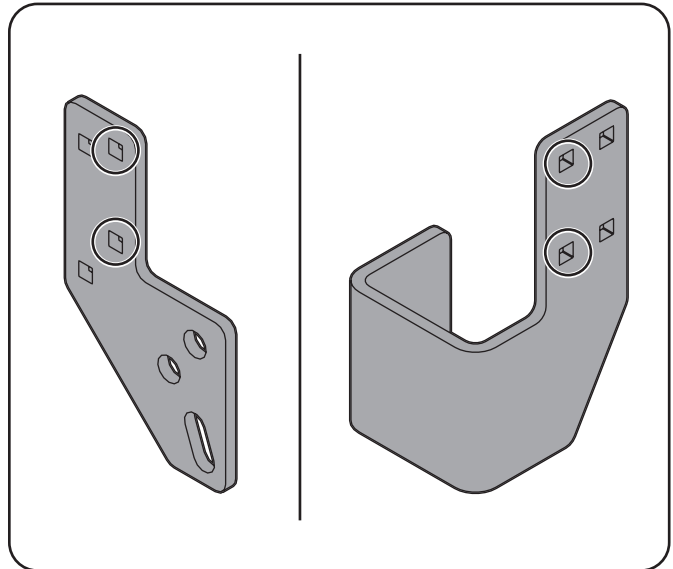

Figure 1-9
1. Use Figure 1-9 below to locate the proper mounting hole locations on Left and Right Roller Brackets (#6 & #7) for your kit.